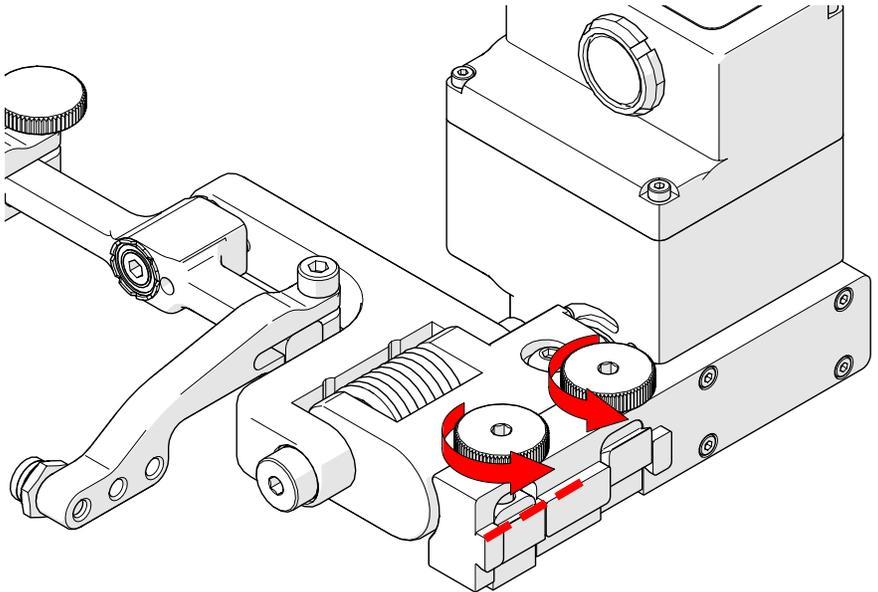

Fig. 28 - Loosen probe holder adjustment knobs
9. Loosen the probe holder adjustment knobs to align the dovetail jaws with the mount's grooves (Fig. 28).